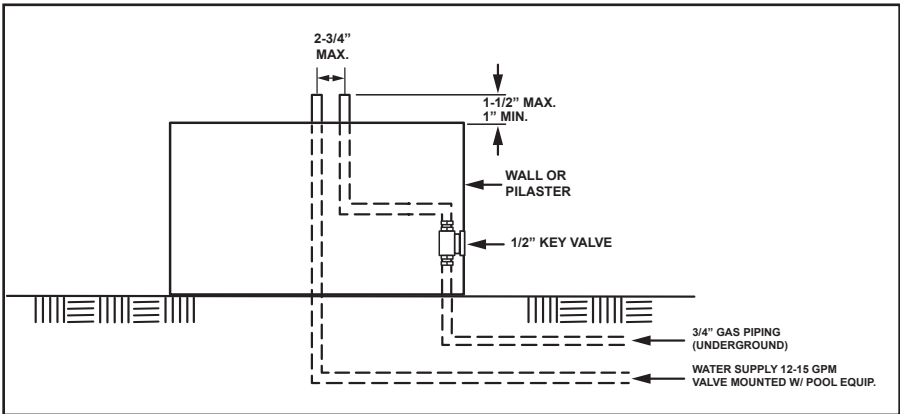
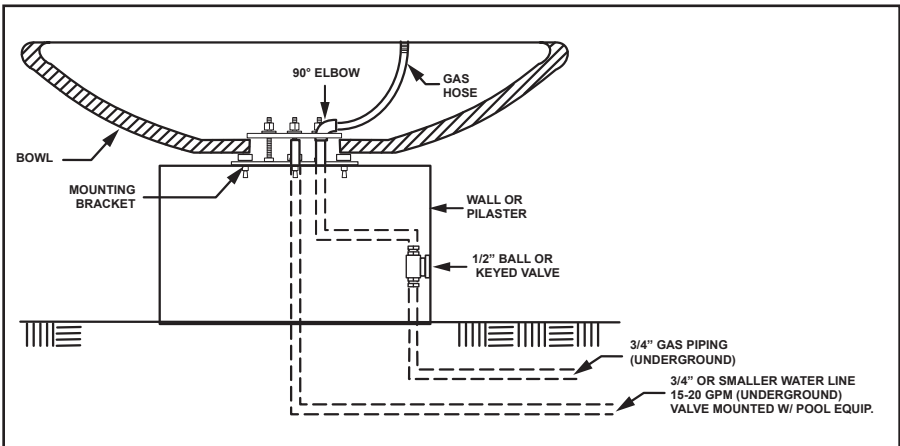
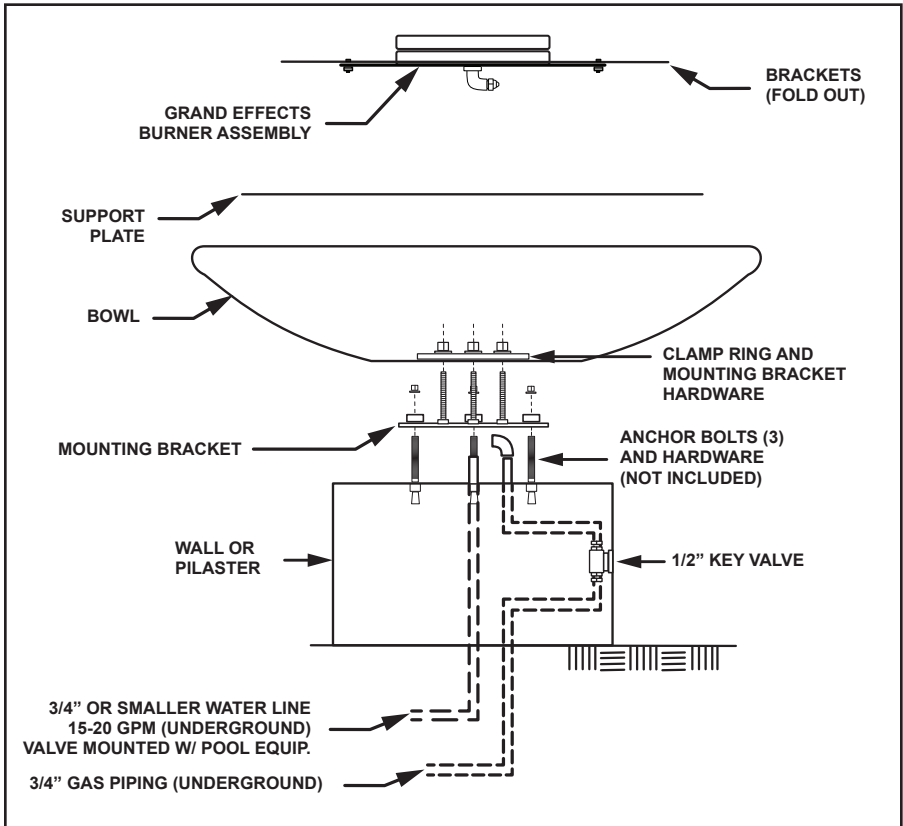

Figure 3. Piping
Figure 4. Mounting
Figure 5. Bowl Components
1. Attach the mounting plate to the surface/floor. See Figure 4.
1. Install the Grand Effects® Unit as shown in Figure 3, Figure 4, and Figure 5.
2. The gas piping must be installed underground between each fire or water bowl, as shown in Figure 3.
3. The piping must be reduced to 1/2" NPT or larger at each bowl, as shown in Figure 3.
7. Install the mounting bracket as shown in Figure 4.
- b. Install the clamp ring onto the three (3) securing bolts and fasten to the bottom of the bowl using a nut and washer on each securing bolt.
9. Install a 3/8" 90° pipe elbow and gas hose at the gas connection as shown in Figure 4.
IMPORTANT: The mounting bracket must be installed for proper cooling of the burner assembly. Warranty may be voided if the mounting bracket is not installed. Do not kink or make sharp radius on the metal gas hose. Do not come straight up with the gas hose. As shown in Figure 4, a 90° gas pipe elbow must be installed on the gas line for proper installation of the gas hose.
The product warranty may be voided if the hose is not installed with an elbow as shown in Figure 4.
1. The height of the flame can be adjusted at each burner by opening or closing the 1/2" gas valve or keyed valve located at each column as shown in Figure 4.